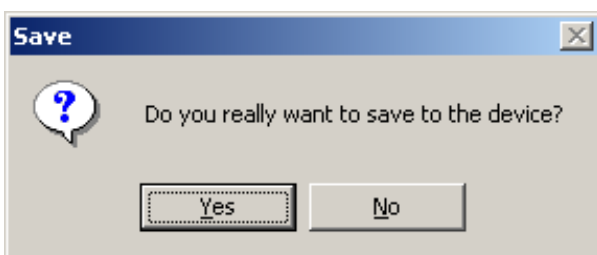

Figure 2-22 Access Code Change Confirmation Screen
3. Select **Save**, IPScom will display an Access Code change Confirmation Screen (Figure 2-22).
4. Select **Save**, IPScom will display an Access Code change Confirmation Screen (Figure 2-22).